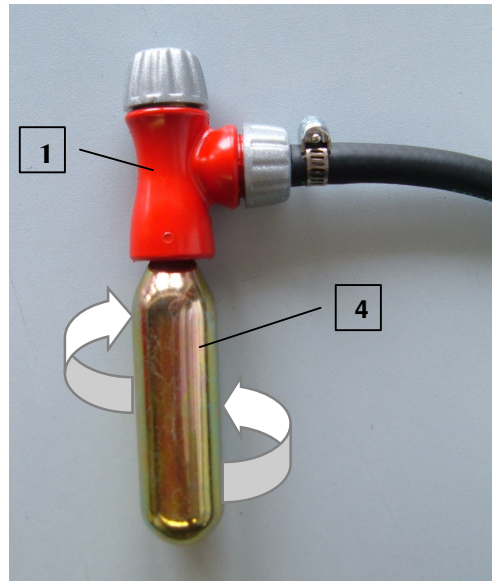

Fig.2
- b) Carefully screw the cartridge 4 on threaded hole 1/8"G (3) of the valve body till a slight resistance (strength) is perceived
- c) Than, to perforate it start quickly screwing the cartridge till it completely stops (fig.2)